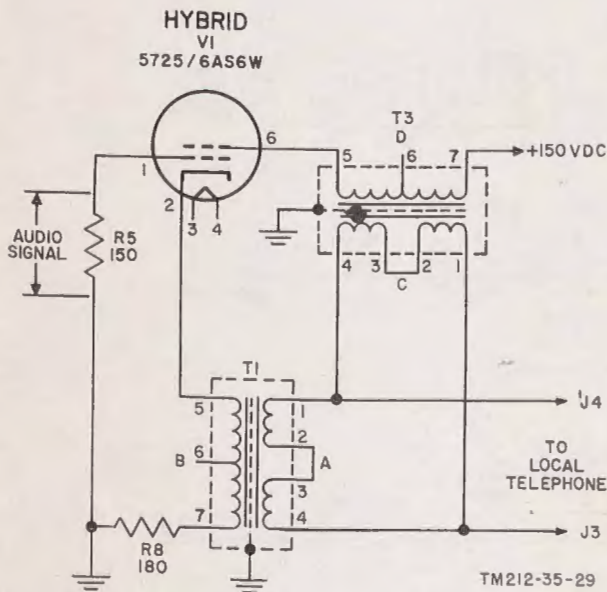

Figure 29. Simplified hybrid circuit receiving signal.
c. Operation of Hybrid When Receiving. Since the plate circuit of V1 is not used in this phase of hybrid operation, the circuit can be simplified by redrawing V1 as a triode (fig. 29). The screen grid of V1 is located between control grid 1 and control grid 2. As in a normal pentode, dc screen current is flowing and the screen grid can be considered as the plate of a triode. The screen grid current of V1 flows through winding D of transformer T3. A dc current will establish a steady field and nothing will appear across winding C of T3. The audio signal (voice frequencies from the remote set) applied to control grid 1 of V1 will increase and decrease the flow of electrons from the cathode to the plate (screen grid) of V1. This increase and decrease will appear as an ac component to the dc screen grid current. The ac component introduced by the audio signal causes the magnetic field in winding D to vary and, by transformer action, an ac voltage (the audio signal) appears across winding C of transformer T3. The local telephone is connected across winding C of transformer T3 and the audio signal appearing across winding C will be heard in the telephone. The audio signal appearing across winding C of transformer T3 also appears
across winding A of transformer T1 (fig. 29). Winding B of transformer T1 is in the cathode of V1 and therefore a feedback loop exists. The phase of the audio voltage across winding B is such that the degeneration that normally takes place in a unbypassed cathode is canceled. The audio signal also appears across the primary of transformer T4 and is amplified by V3B and V4 and is applied to the input of FL1. The audio signal will go no further since FL1 will react only to an 800-cps signal of proper duration. The voice frequencies do not contain 800-cps signals of the correct duration to trigger FL1.